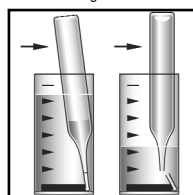

Figure 3
3. **Immediately** place the CHEMet ampoule, tip first, into the sample cup. Snap the tip. The ampoule will fill leaving a bubble for mixing (fig. 3).